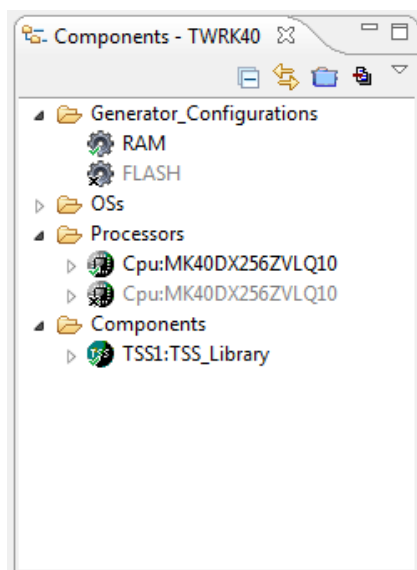

Figure 6-2. Processor Expert project Components window
3. Figure 6-2 shows how the TSS Component appears in the Components window of the Processor Expert project. You are now ready to configure the TSS Component.